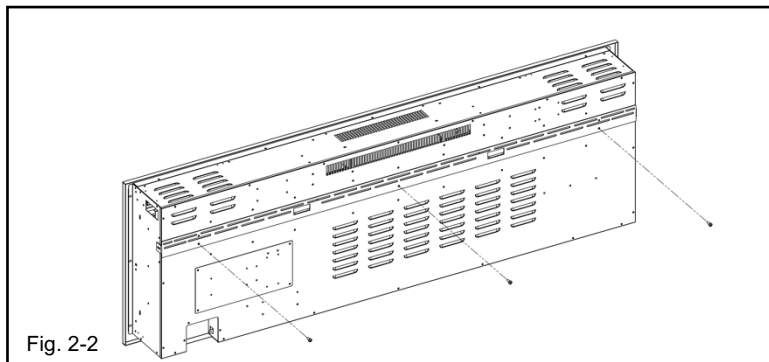

Fig. 2-2
- Remove the wall mount bracket from the backside of the fireplace by removing the screws mounted to the wall bracket. The quantity of screws will differ depending on model size. (Fig. 2-2). Store in a safe place.